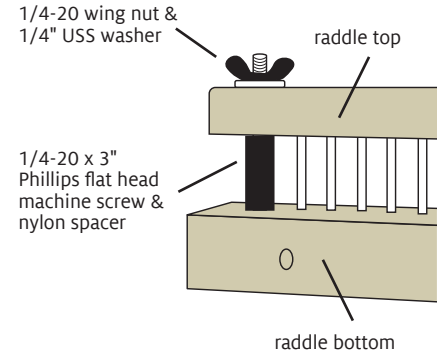

FIGURE 1: RADDLE PARTS
If you prefer 1/2" intervals, install the extra pins in the empty holes. Remove the wing nuts and washers securing the raddle top (Figure 1). Lift off the top and place the raddle on a sturdy surface such as kitchen counter. Gently tap pins into the holes of the raddle base with a hammer. Replace the raddle top.
1. Remove the wing nuts and washers from the top of the raddle. Remove the raddle top (Figure 1).
2. Using a #2 Phillips screwdriver, remove the nylon spacers and 1/4-20 x 3" Phillips flat head machine screws at each end of the raddle bottom (Figure 1).